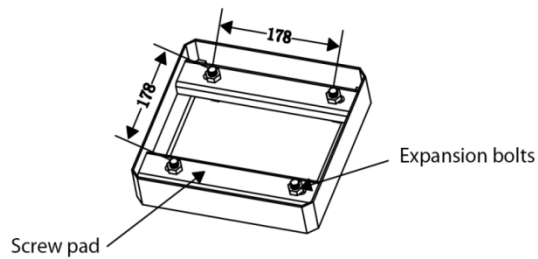

Figure 1-2
- 2) Drive four expansion bolts into the bolt holes, as shown in Figure 1-2.